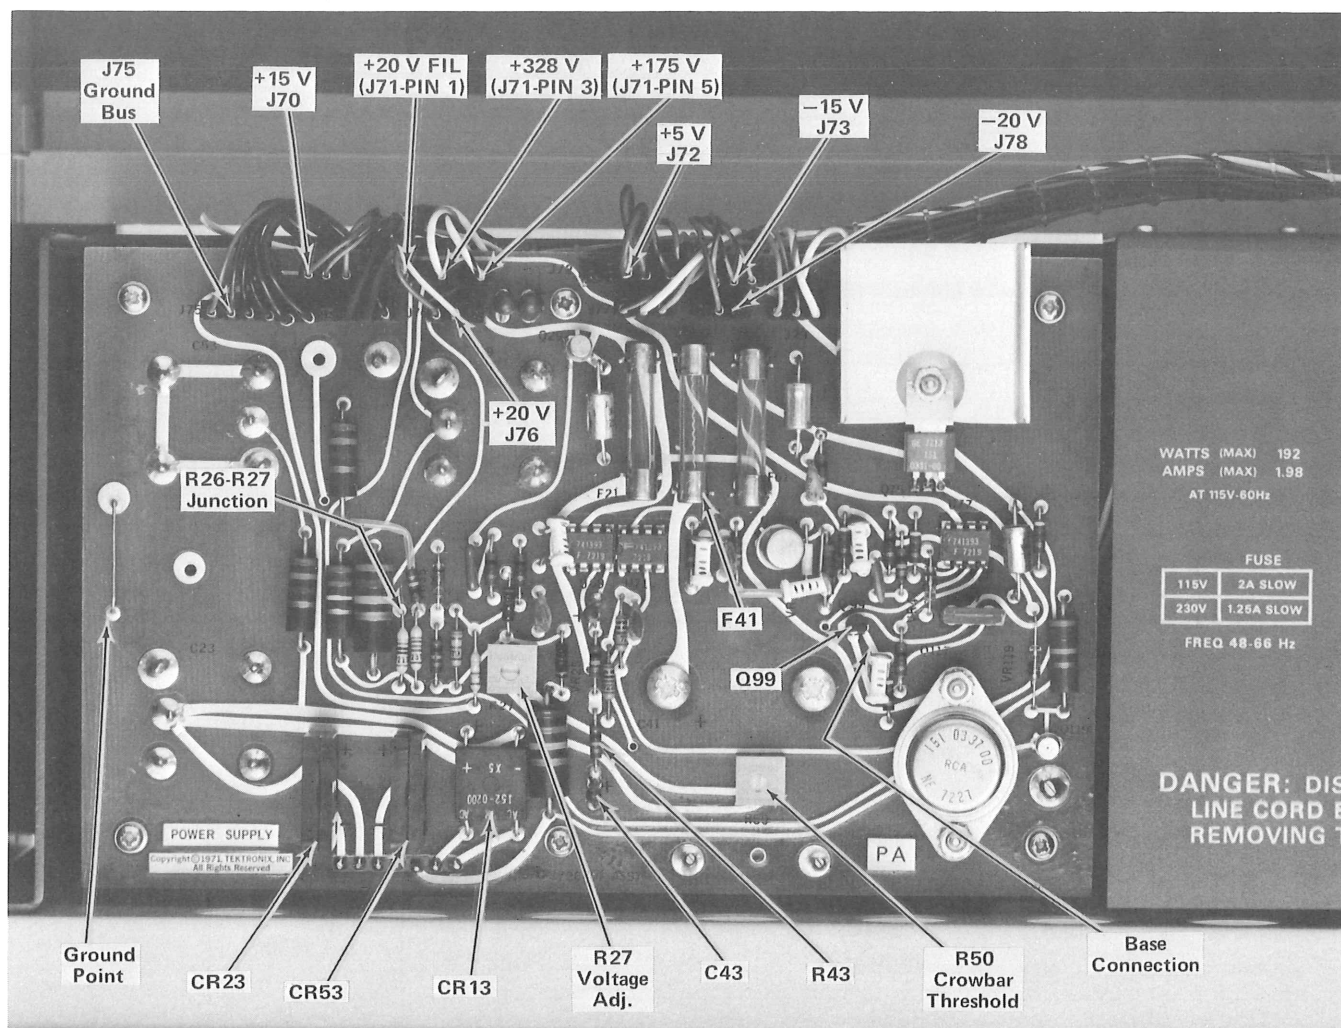

Fig. 4-5. Power Supply Adjustments and Test Points.
c. Connect the voltmeter reference lead to the ground point shown in Fig. 4-5.
d. Using a voltmeter which has .05% or better accuracy at 15 V, adjust R27 to obtain +15.000 V at the +15 V test point. Adjustment and test point locations are shown in Fig. 4-5.
e. Measure the various power supply voltages as listed in Table 4-1. Test points are shown in Fig. 4-5. Record all voltages in Table 4-2. (Make duplicate copies of Table 4-2 for future use.)
a. Check the voltage at the base of Q99 for 4.8 V. Adjust R50 as necessary to obtain that value. See Fig. 4-5 for component locations.
(1) Using a shorting strap, momentarily connect the R26-R27 junction to the R43-C43 junction, expecting a
flash from F41. See Fig. 4-5 for locations. The voltage at the +5 V test point indicated in Fig. 4-5 should drop to 0 V.